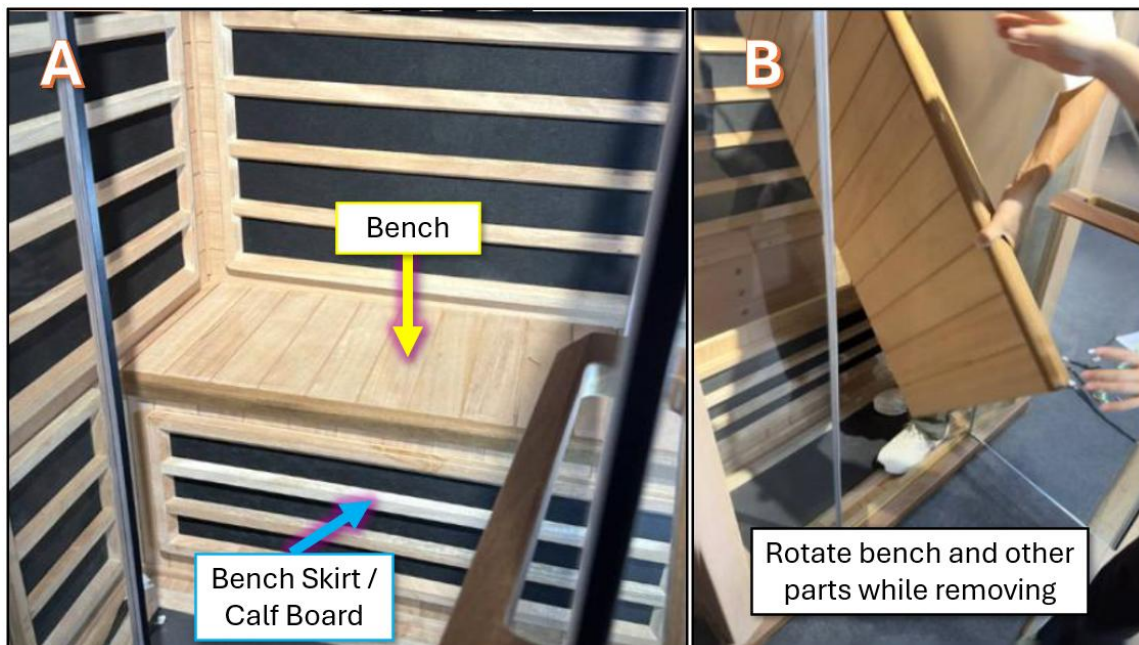

Figure 1. Bench, bench skirt / calf board, and interior structures. *Illustrative example only – specific models vary in interior layout.*
Step 2. Remove the structures in and around the bench area to access the equipment connection area underneath (Figure 1).
- 2.1.1.1. Carefully rotate the bench(es) vertically for easier removal from the sauna (see Figure 1, Image B).
- 2.2. Remove the bench skirt (located underneath the front of the bench seat) with attached calf heater (if present) from the sauna (Figure 1). Disconnect any wire connectors before removing.